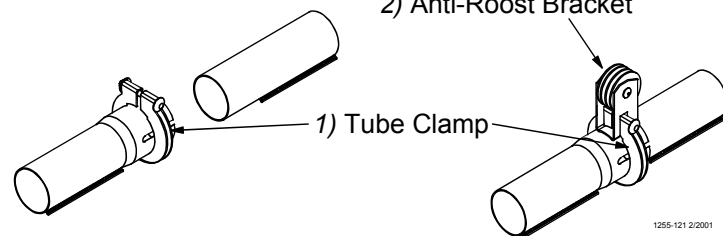

Figure 36. Tube Clamp and Tube Clamp with Anti-Roost Bracket
4. Place a Tube Clamp Assembly or Clamp/Anti-Roost Bracket at each joint. **Figure 36** shows the standard Clamp and Clamp/Anti-Roost Bracket.